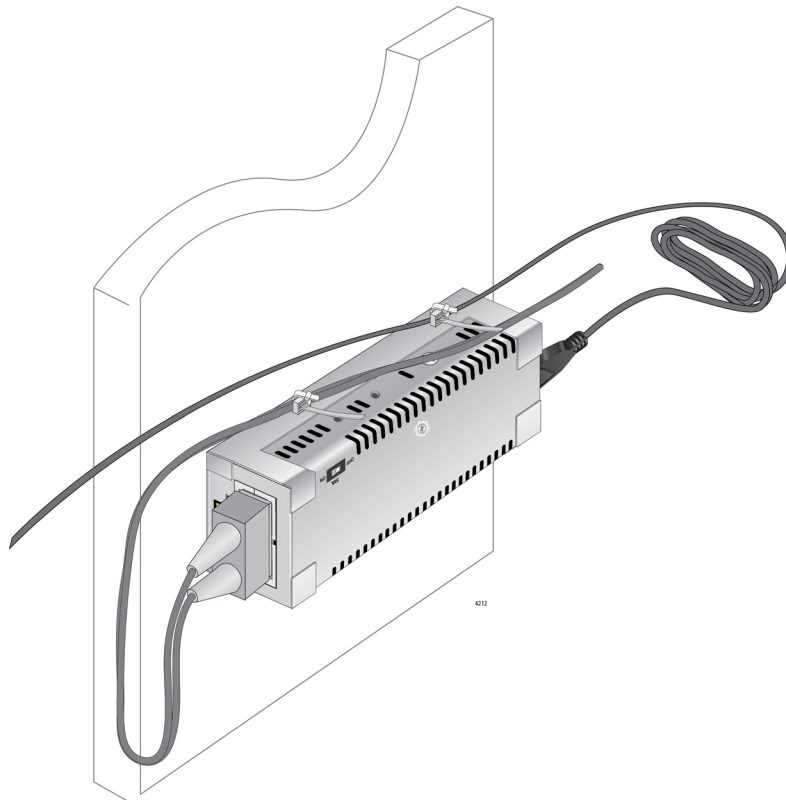

Figure 27. Securing the Fiber Optic Cable Tie
6. Secure the fiber optic cable to the media converter using the other cable tie as described below and shown in Figure 27: